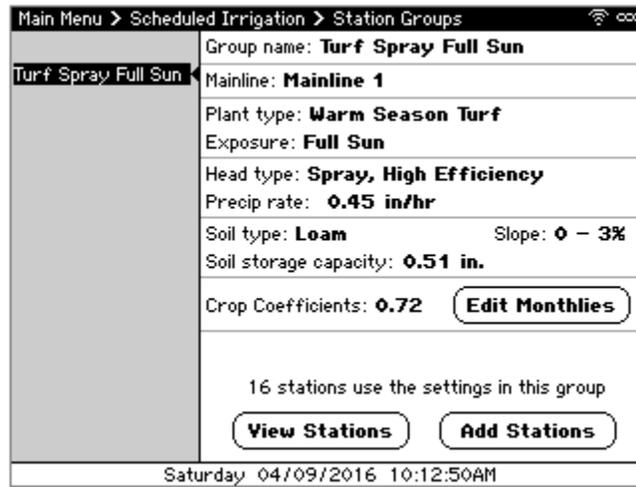

Figure 5 - Station Groups screen
- Navigate to and select **Station Groups**. The Station Groups screen displays (Figure 5). The panel of the left shows the list of Station Groups and includes the ability to add new groups.